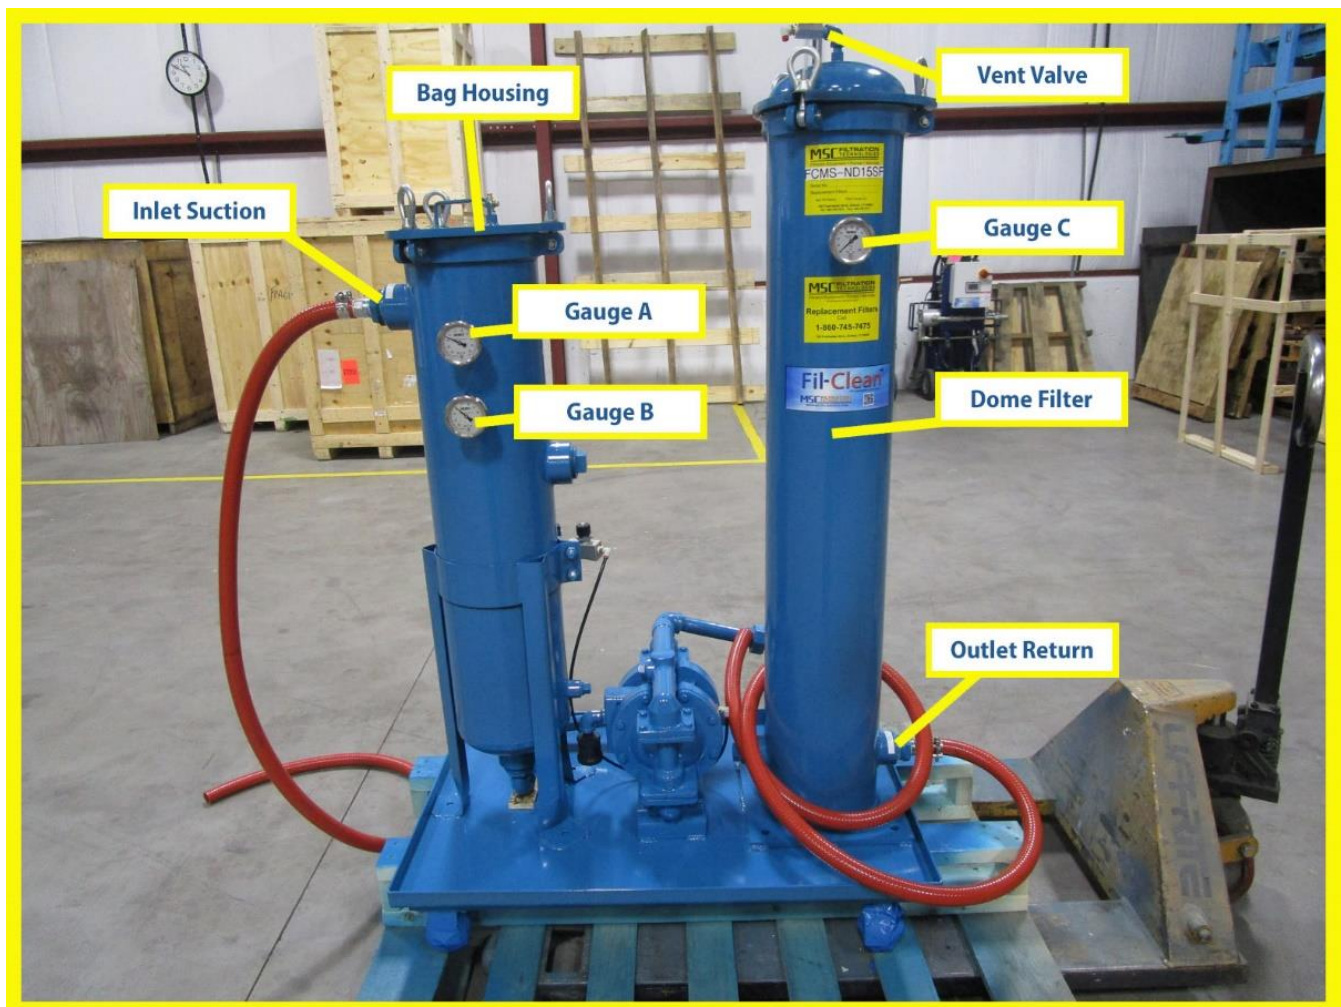

Figure 1
2.0 INSTALLATION AND OPERATION (SEE FIGURES 1 AND 2)
9. Once flow is established make sure to put a container under Dome Filter Vent Valve (figure 1) and opening it until liquid comes out and then close.
3.0 FILTER ELEMENT CHANGE (SEE FIGURES 1 AND 2)
1. Bag filter requires changing when either air pump struggles to pump, flow slows down or difference between Gauge A and Gauge B (Figure 1) is 15-20 psid.
2. Dome cartridge filter requires changing when Gauge C (Figure 1) reads 20-25 psid.
5. **Important: Before opening filter housings open Dome Vent Valve (Figure 1) to make sure that pressure is relieved in housing.**